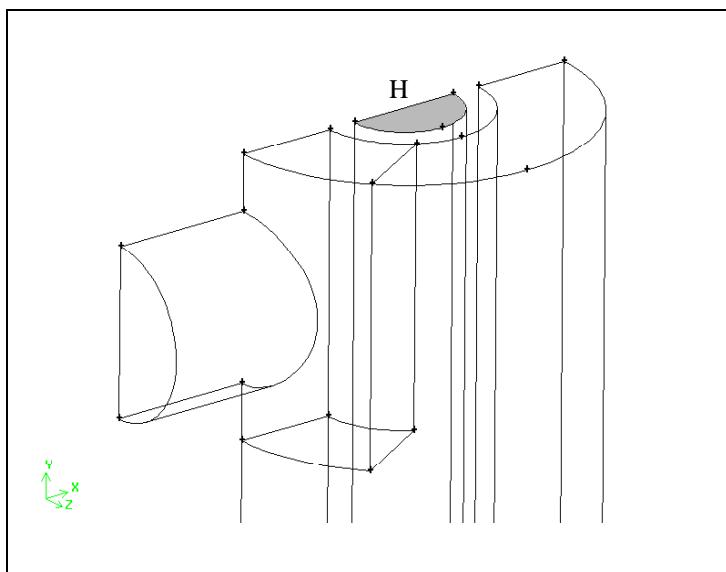

Figure 7-40: Face to be modified
2. Set the meshing size on the face marked H in Figure 7-40.
a) Select the face marked H in Figure 7-40 in the graphics window (the face at the end of the pipe).